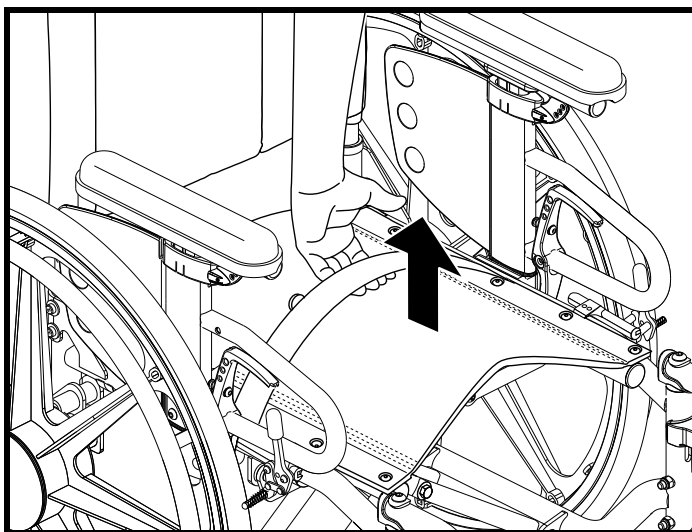

Figure 8. Folding the Litestream XF LTD RQ
4. Pull up on the strap until both wheels close together. See figure 8.